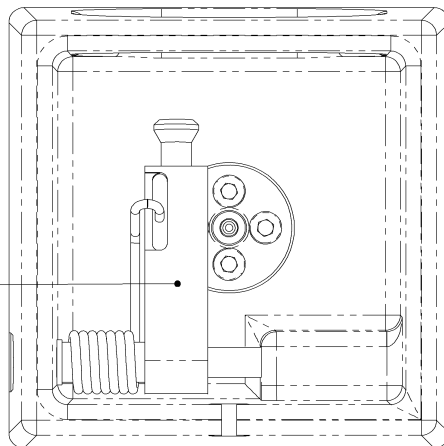

Figure 2-2 Hammer Assembly Operating Positions
Refer to Figures 2-2 thru 2 -5
8. **MAKE SURE THE HAMMER ASSEMBLY IS MOVED FROM POSITION 1 TO THE SAFE HAMMER POSITION 2 (Figure 2-2) ALONG SIDE THE BREECH PLUG – THIS IS THE PRE-FIRING POSITION.**